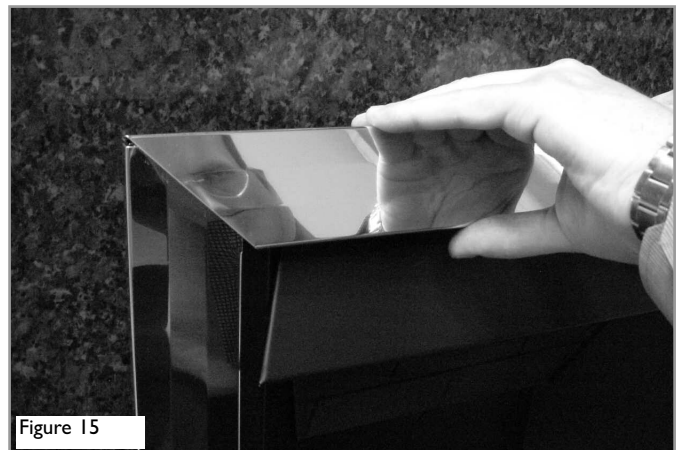

Figure 15
**For three piece frames :** The side pieces of the clip on assembly should be pushed into position first, followed by the top bar (shown in figure 15), which should overlap the sides.